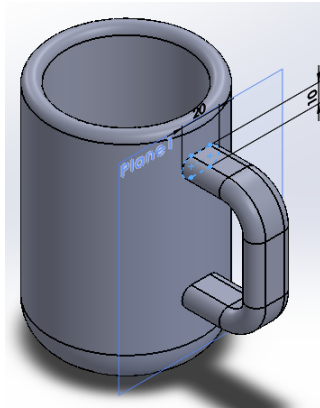
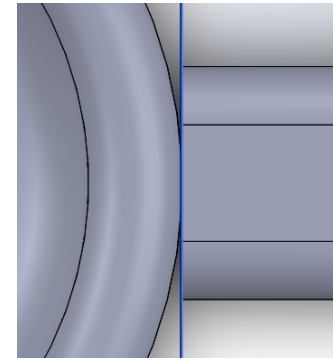

Fig4
Fig5
- It would be possible to place the sketch onto a newly defined plane which is tangential to the outer cylindrical surface of the part (Fig4). This solution is wrong because the connection between the ear and the body would be imperfect (Fig5);